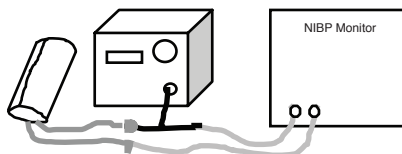

Fig. 1
5. For dynamic NIBP testing, connect the SimCube simulator in line with the monitor's cuff and hose as shown in Fig. 1. Different monitors will require different adapters. A variety of adapters are available from Pronk Technologies Inc. and each SimCube system comes equipped with at least one. Using a SimCube Cuff Jacket can improve reading capture and consistency. Generally, the smaller cuff jacket sleeve volume is best for most monitors. In Neo mode, be sure to use a small cuff. To use the Cuff Jacket, wrap the cuff as described above and insert into the desired neo or large volume sleeve. If not using the Cuff Jacket, wrap cuff snugly around itself and place in an area safe from accidental motion.